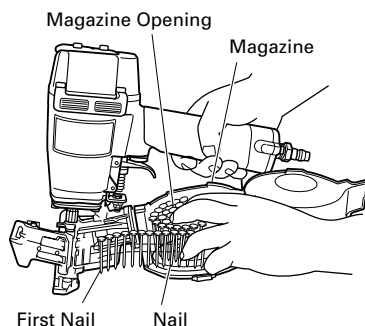

Fig. 3
- (3) Place the nail coil in the magazine. Insert the first nail into the magazine opening. (Fig. 3)